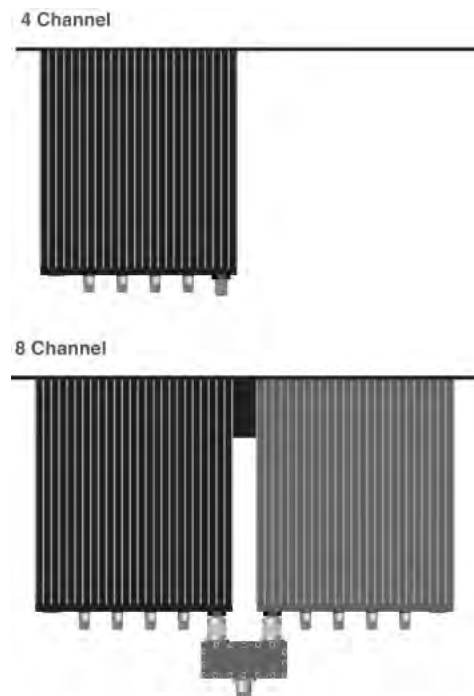

Figure A1: Interconnect diagram for the 4 to 8 channel expansion kit.
This kit is used to expand systems that have an expandable deck. An expandable deck is one that has only 4 channels out of 8 possible channels. This is the easiest expansion kit to install requiring the addition of a 4 channel combiner assembly and a 2-way splitter/combiner. **Figure A1** shows the basic interconnect diagram for this expansion kit. The 12 - 16, 20 - 24, and 28 - 32 expansions are exactly the same.
- 6) Connect the supplied 2-way external splitter/combiner to the output port of both 4 channel combiner assemblies as shown in figure A1.